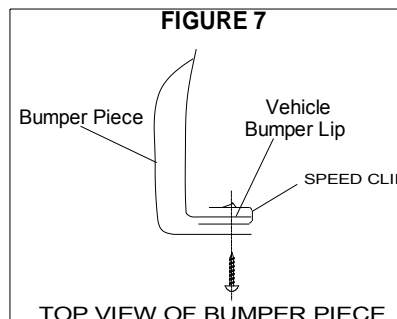

FIGURE 8
- (E) Apply a black tab to marked location on bumper, keeping the edge of tab even with the bumper lip. **See Figure 8.**
- (F) Slide a silver mini clamp over tab and bumper lip. **See Figure 8.**
- (G) Hold bumper piece in place and start the screws in the speed clips, keeping the screws loose.
- (H) Insure that the bumper piece lip is aligned with the inside bumper lip, and is even with the top of the bumper.
- (I) Tighten the three speed clips.
- (J) Start and tighten the #10 screw in the silver mini clamp at the bottom.
- (K) Adjust the flare to match the bumper piece and tighten the last screw. **(See Step 3: C)**